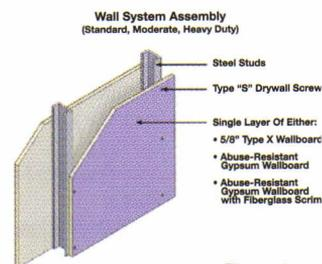

Figure 1
Residential applications are rare in this category, while institutional applications are many. Low-risk detention facilities, courthouses, and police stations are excellent candidates for maximum-duty specifications. Psychiatric wards and observation rooms occasionally require this treatment as well. Commercial applications are also few, but busy mail rooms or payroll rooms could fall into this category. CMU is a classic choice for this type of space, but can run the risk of over engineering. Abuse-resistant gypsum wallboard with fiberglass scrim and fiber-reinforced gypsum wallboard with fiberglass scrim have proven very durable with a two-layered assembly (see figures 1 and 2 for proper assemblies).
- Figure 1:**